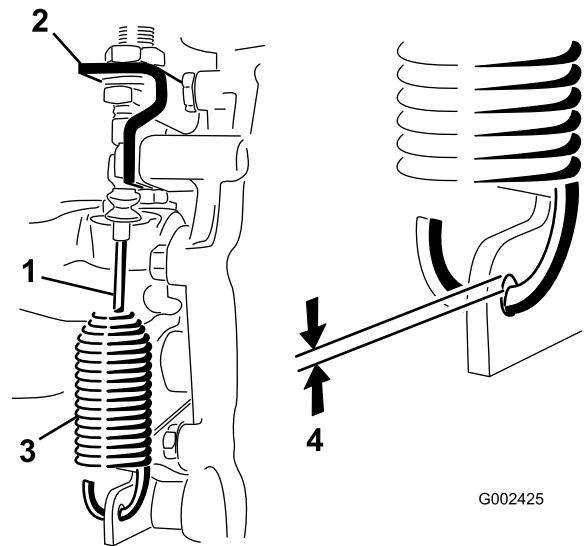

Figure 55
2. Loosen the jam nuts securing the differential-lock cable to the bracket on the transaxle (Figure 55).